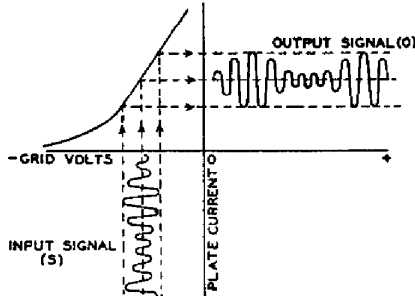

Fig 4
As a **Class A voltage amplifier**, a radio tube is used to reproduce grid voltage variations across an impedance or a resistance in the plate circuit. These variations are essentially of the same form as the input signal voltage impressed on the grid, but of increased amplitude. This is accomplished by operating the tube at a suitable grid bias so that the applied grid-input voltage produces plate-current variations proportional to the signal swings. Since the voltage variation obtained in the plate circuit is much larger than that required to swing the grid, amplification of the signal is obtained. Fig. 4 gives a graphical illustration of this method of amplification and shows, by means of the grid-voltage vs. plate-current characteristics, the effect of an input signal (S) applied to the grid of a tube. O is the resulting amplified plate-current variation.